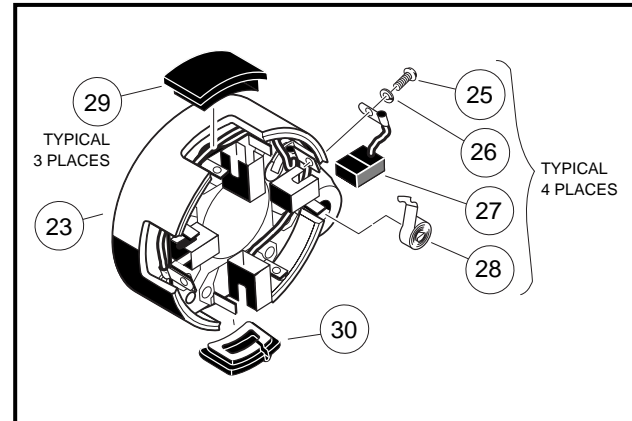
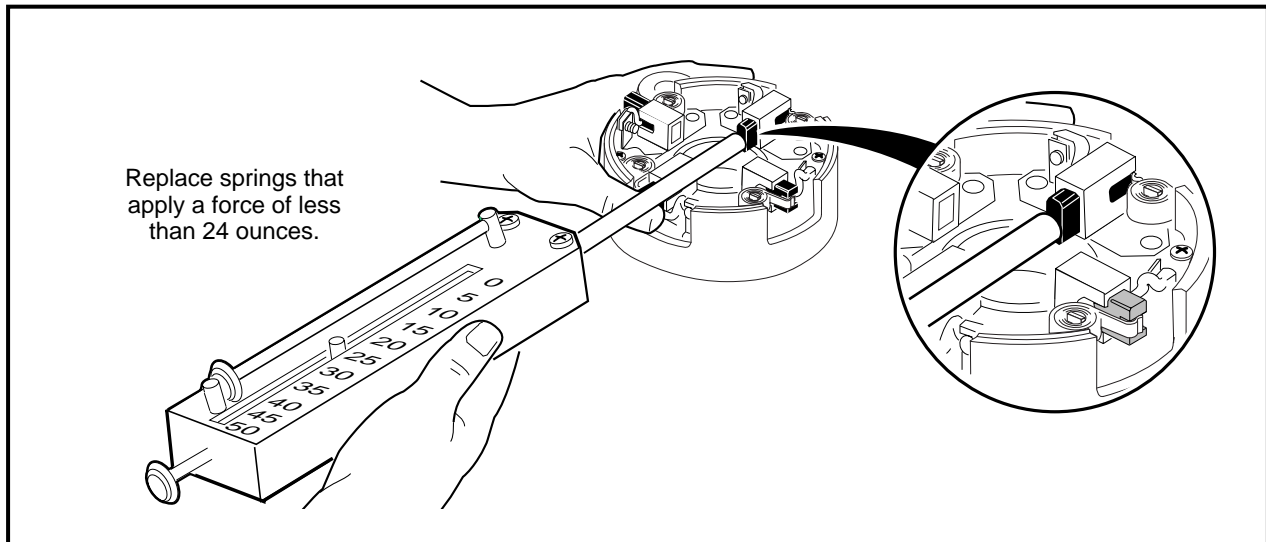

Figure 12-4 Brush Covers and Brushes
Figure 12-6 Brush Spring Tension Test
2. Remove brush covers (29 and 30), screws (25) and lockwashers (26), brush springs (28), and brushes (27) (Figure 12-4, Page 12-4). See following NOTE.
2. Install the four brushes (27) into their holders and insert the four brush springs (28) (Figure 12-4, Page 12-4). Using a spring scale, test brush spring tension. If any spring has a tension less than 24 ounces, replace all four springs (Figure 12-6, Page 12-5). See following CAUTION.
1. Connect the brush wires to the holders using four lockwashers (26) and four screws (25), making sure the crossover leads are connected also. Tighten the screws to 31 in-lb (3.5 N-m) (Figure 12-4, Page 12-4).
4. Push the brushes down into the holders. Position springs into the notches in the brushes. Install the brush cover (30) that has the drain hole in it next to the A2 terminal. Install the remaining three brush covers (29) in the openings in the commutator end cover (23) (**Figure 12-4, Page 12-4**).
10. Push the brushes down into the holders. Place springs into the notches in the brushes. Install the brush cover (30) that has the drain hole in it next to the A2 terminal. Install the remaining three brush covers (29) in the openings in the commutator end cover (23) **(Figure 12-4, Page 12-4)**.